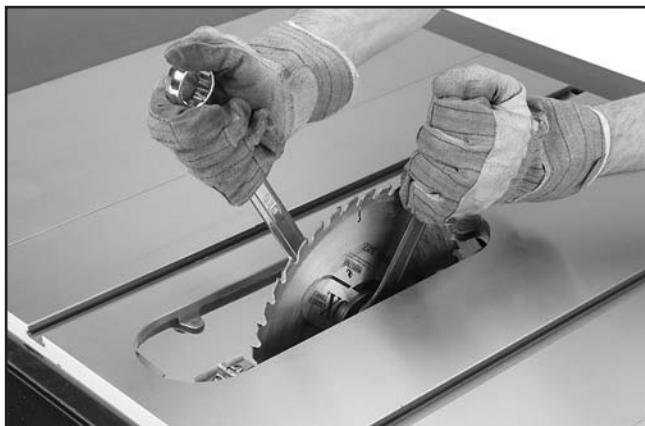

Figure 30. Securing blade.
4. Put on a pair of heavy leather gloves and use the included arbor wrenches to tighten the arbor nut (turn clockwise to tighten), as shown in **Figure 30**.